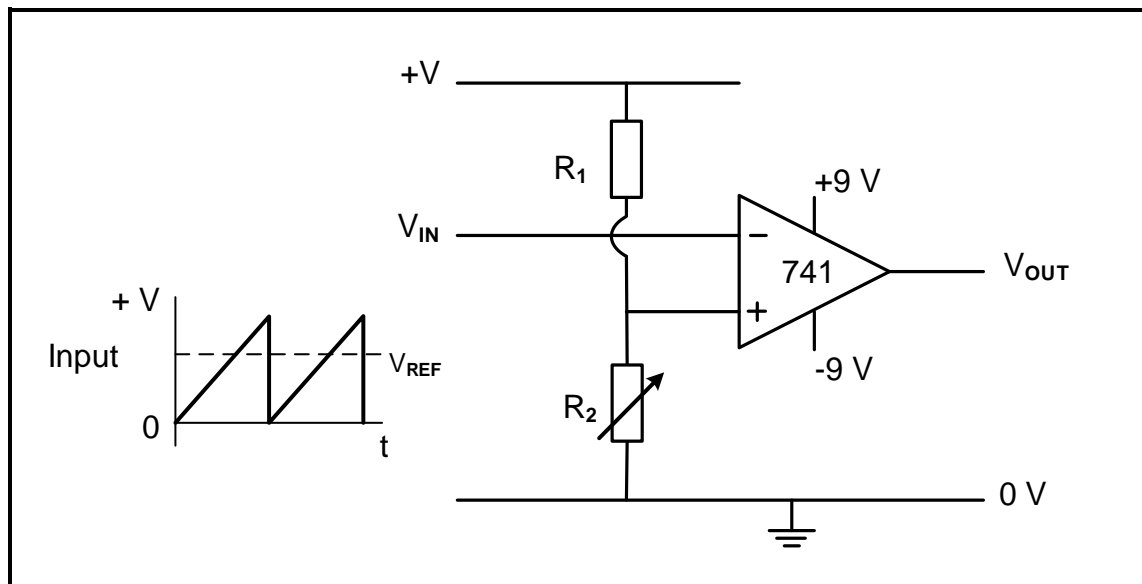

FIGURE 3.5: COMPARATOR
3.5 Refer to FIGURE 3.5 below and answer the questions that follow.